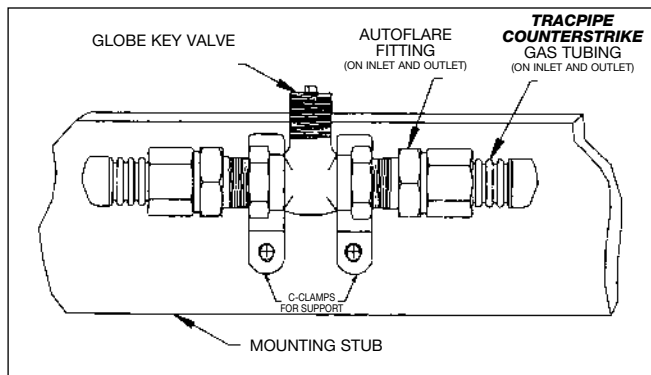

Figure: 4-14
2. Flexible piping connections to fireplace “key valves” can be located in a concealed location, when accessibility is not readily provided. See Figures: 4-14 and 4-15